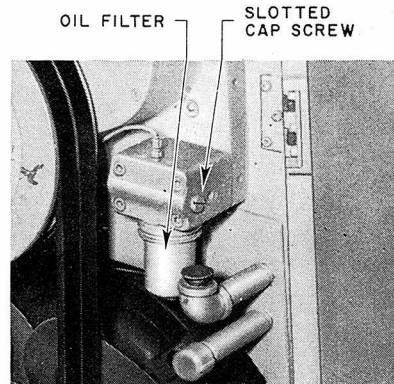

Figure 49B
4. Open the motor compartment door. The relief valve which controls the column oil pressure is located near the filter element on the lower right-hand side of the pulley bracket (Figure 49B).